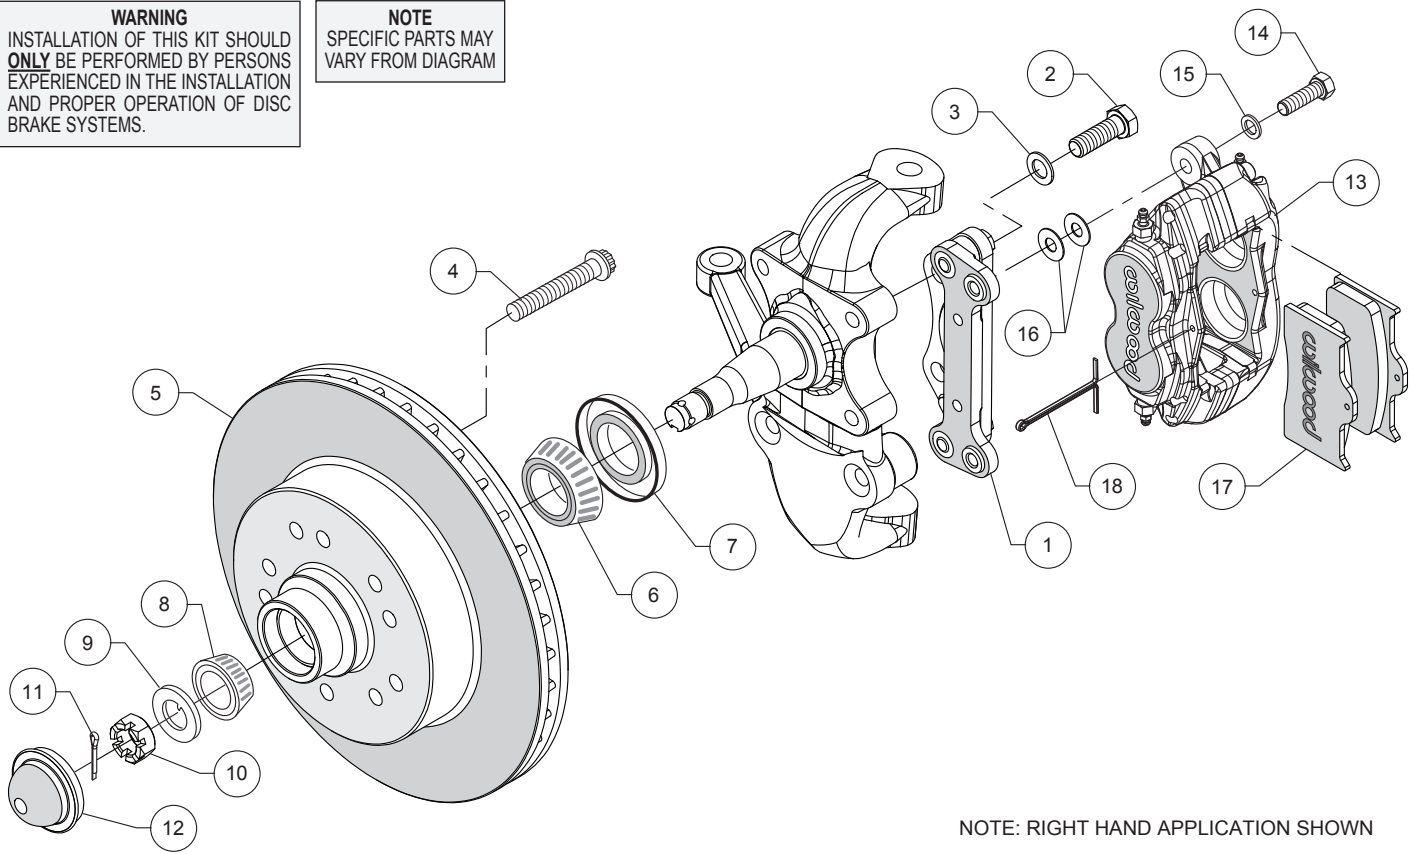
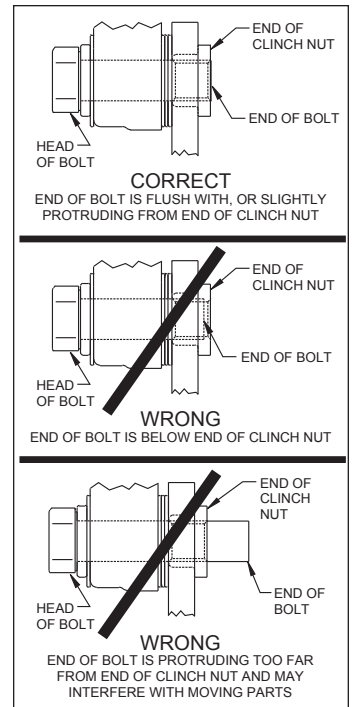

Figure 1. Typical Installation Configuration
Figure 3. Clinch Nut Engagement Diagram
Assembly Instructions (numbers in parenthesis refer to the parts list and Figure 1 on the preceding pages): **CAUTION:** All mounting bolts must fully engage clinch nuts. Be sure to check that all bolts are either flush or protruding through flanged side of clinch nut after shimming, Figure 3.
- Orient the bracket as shown in Figure 1, and Photo 1. Install using bolts (2) and washers (3). Ensure that the flanged heads of the clinch nuts in the bracket are facing outboard, Photo 1. Temporarily tighten the mounting bolts. **NOTE:** The bracket must fit squarely against the mounting points on the spindle. Inspect for interference from casting irregularities, machining ridges, burrs, etc. Remove bolts one at a time, apply red Loctite® 271 to threads, and torque to 90 ft-lb.
- Install wheel studs (4) into the hub/rotor (5), Photo 2. Apply red Loctite® 271 to the threads and torque to 77 ft-lb. **NOTE:** There are two five lug patterns in the hub (5 x 4.50 and 5 x 4.75). Ensure the correct hub stud pattern is being used to fit the wheel application.
- Pack the large inner bearing cone (6) with high temperature disc brake bearing grease (available from your local auto parts store) and install into the backside of the hub/rotor (5), Photo 3.
- Install the grease seal (7) by pressing into the backside of the hub/rotor (5), flush with the end of the hub, Photo 4.
- Pack the small outer bearing cone (8) with high temperature disc brake bearing grease and install into the front side of the hub (5). Slide the hub/rotor onto the spindle, Photo 5. Secure using spindle washer (9) and spindle nut (10), Photo 6. Bearing adjustment: Tighten the nut while turning the hub. When there is a slight bind on the bearings, they are seated correctly. Back the nut off about 1/6 to 1/4 of a turn, or sufficiently to allow .001" to .007" end play. **WARNING:** Failure to back off adjusting nut could cause bearing to run hot and be damaged, which could cause the wheel to lock or come off. Install new cotter pin (11).
- Press the dust cap (12) into the hub/rotor (5), Photo 7. **NOTE:** Do not hammer center of cap. Install using outer flange only.
- NOTE:** Please reference the caution statement at the beginning of the assembly instructions. Mount the caliper (13) onto the caliper mounting bracket (1) using bolts (14) and washers (15), as shown in Figure 1. Initially place two .035" thick shims (16) on each bolt between the caliper and the bracket, Photo 8. Temporarily tighten the mounting bolts and view the rotor (5) through the top opening of the caliper. The rotor should be centered in the caliper (13), Photo 9. If not, adjust by adding or subtracting shims between the bracket and the caliper. Always use the same amount of shims on each of the two mounting bolts. **NOTE:** The end of each bolt must be flush with or slightly protruding from the head of the clinch nut, as shown in Figure 3. If necessary place spare shims (16) between washer (15) and